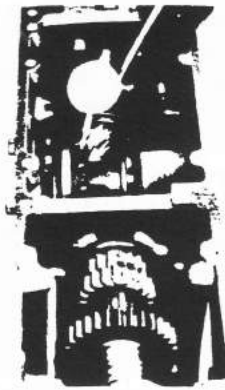

Fig. 26
Tighten the right adjuster wheel, strike the cage several times with a plastic tip hammer, measure the backlash again, tighten the screws (M10 x 20) together with the stopper washers (A), and lock the adjuster wheel (Fig. 26).